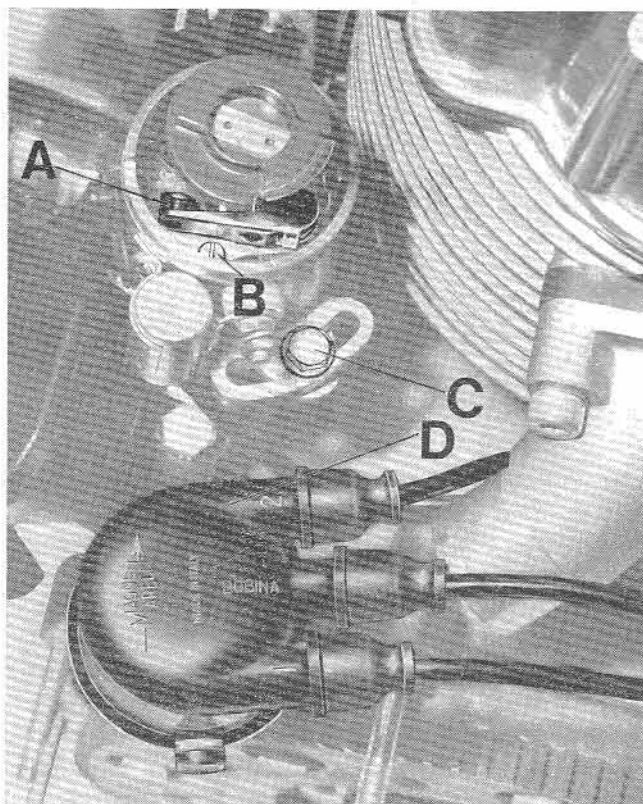

Fig. 125
- Check that distributor contact gap (see A on Fig. 125) is 0.42-0.48 mm. (.016-.018). If not so, adjust by means of adjusting screw (B).
If the points open before or after the specified mark, slacken distributor securing bolt (see C on Fig. 125) and turn the distributor to the right or to the left to obtain correct position in which the points will start opening at the proper time.
departing from cap outlet marked No. 2 must be connected to plug of cylinder No. 2 (L/H). Cable departing from cap outlet marked No. 1 must be connected to plug of cylinder No. 1 (R/H). Cable departing from cap outlet marked « BOBINA » must be connected to ignition coil (see Fig. 125).